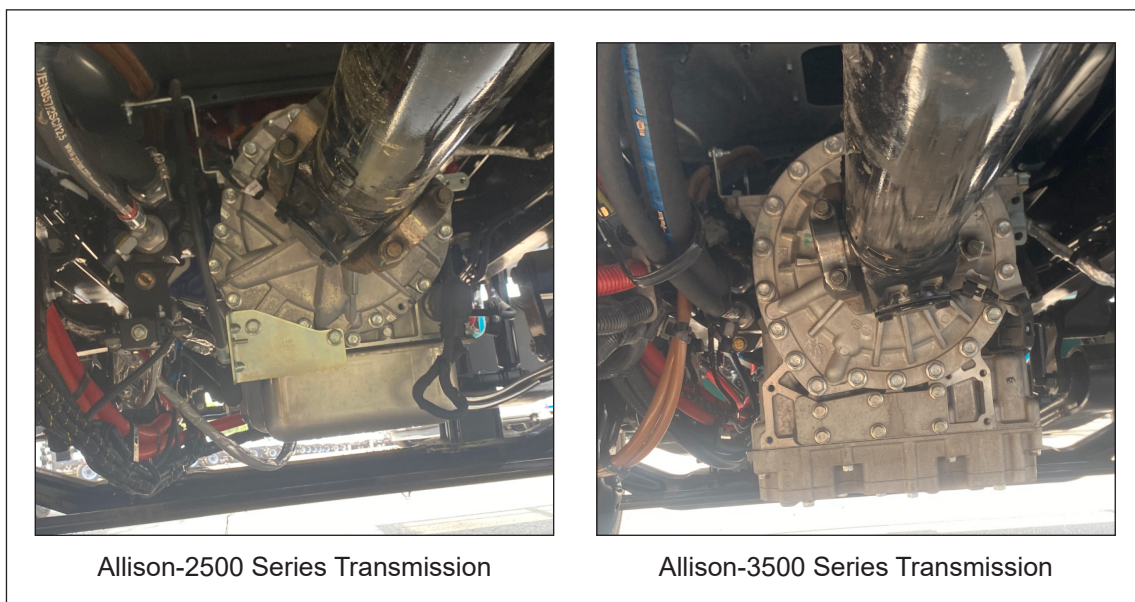

Figure 1 — Verifying the Unit Transmission
2. Inspect the transmission and verify the unit is equipped with an Allison-2500 series transmission (refer to Figure 1).